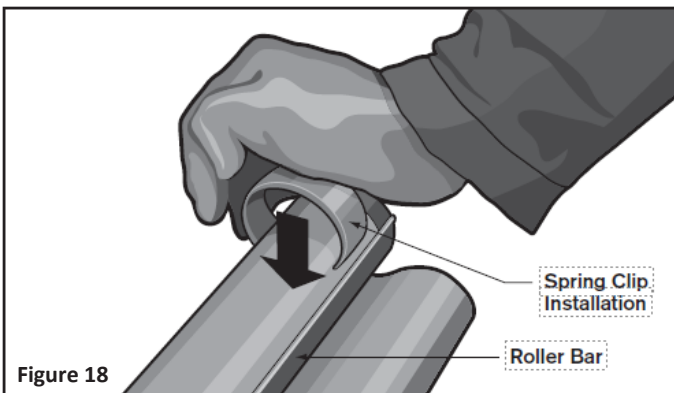

Figure 18
Note: One (1) clip will be installed over the fabric on each end of the roller bar, approximately one (1) inch from the outer edge of the roller bar. All remaining clips will be installed equally distanced along the roller bar, between the two (2) end clips. See **Figure 18**.
25. Install the existing or supplied spring clips over the fabric, onto the roller bar. Align one end of the clip with the raised guide. Using the palm of your hand, press the spring clip down, onto the roller bar. See **Figure 18** and **18a**.